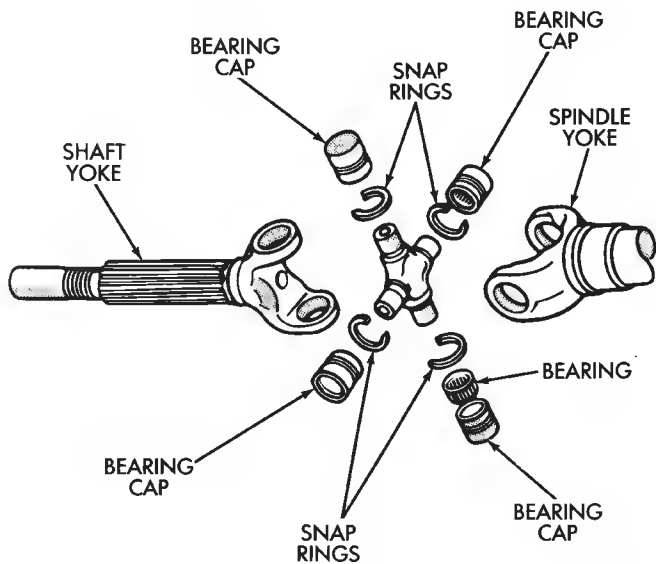

Fig. 7 Axle Shaft Outer U-Joint
- (1) Remove the bearing cap retaining snap rings (Fig. 7).